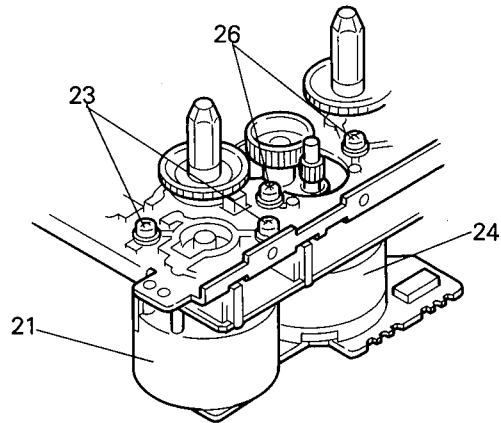

Fig. 5-48
■ **Reel and Actuator motor assembly** (Fig. 5-48, 49)
1. Remove four screws (23, 26) retaining the reel motor (21) and the actuator motor assembly (24). (Fig. 5-48)